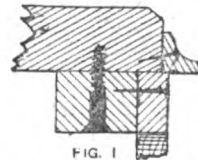

FIG. 1
**Re-modelling a Round Oak Table.**—At very little cost an old-fashioned round oak snap table, with the usual turned centre pillar and three curved legs, may be converted into a sitting-room table. After having planed, scraped, and glass-papered the top quite smooth, cut it to the shape of an octagon, keeping the corners to the full diameter of the circle, and then plane the edges true and square, and chamfer off the toparris  $\frac{1}{4}$  in. each way. Next make, or procure from a local joiner, about 16 ft. of oak scotia moulding made from  $\frac{1}{2}$ -in. stuff, and mitre and fix it all round the edges as shown at Fig. 1. Use a small bradawl for boring the holes, and fix with small wrought-iron sprigs. Then on the underside of the table top fix with screws pieces of  $1\frac{1}{2}$ -in. by 1-in. white wood, about  $\frac{1}{2}$  in. back from the joint made by the moulding, and to these fix pieces of oak  $\frac{1}{4}$  in. thick